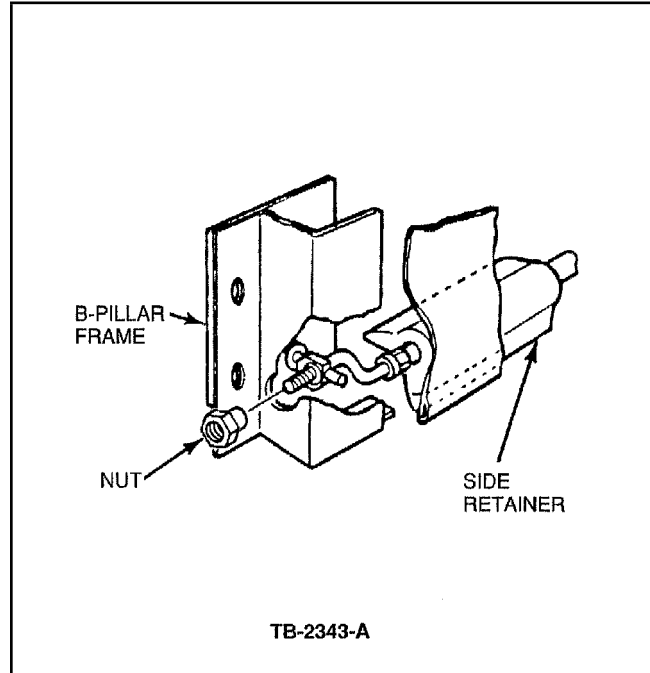

Figure 3 - Article 91-21-1
5. Tighten the side tension wire as necessary by adjusting the nut, Figure 3. By heating the nut with a soldering iron for a few moments, the Loctite will release on the threads of the side tension wire.